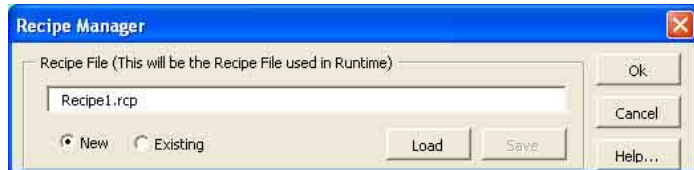

Fig. 1: Simple Recipe manger
3. Select the **Recipe Manager** and drag it into the GraphWorX32 screen. Double-click on the symbol and the **Recipe Manager** window will appear as shown in **Fig. 1**.